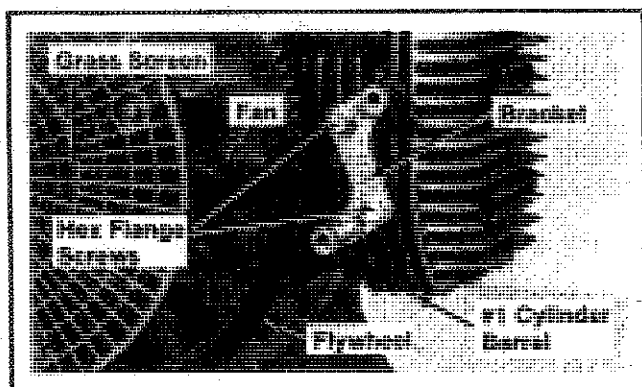

Figure 9-16. Removing Ignition Module Bracket.
2. Remove the hex flange screws and bracket from #1 cylinder barrel. Refer to Figure 9-16.
1. Remove the grass screen from fan. Refer to Figure 9-16.